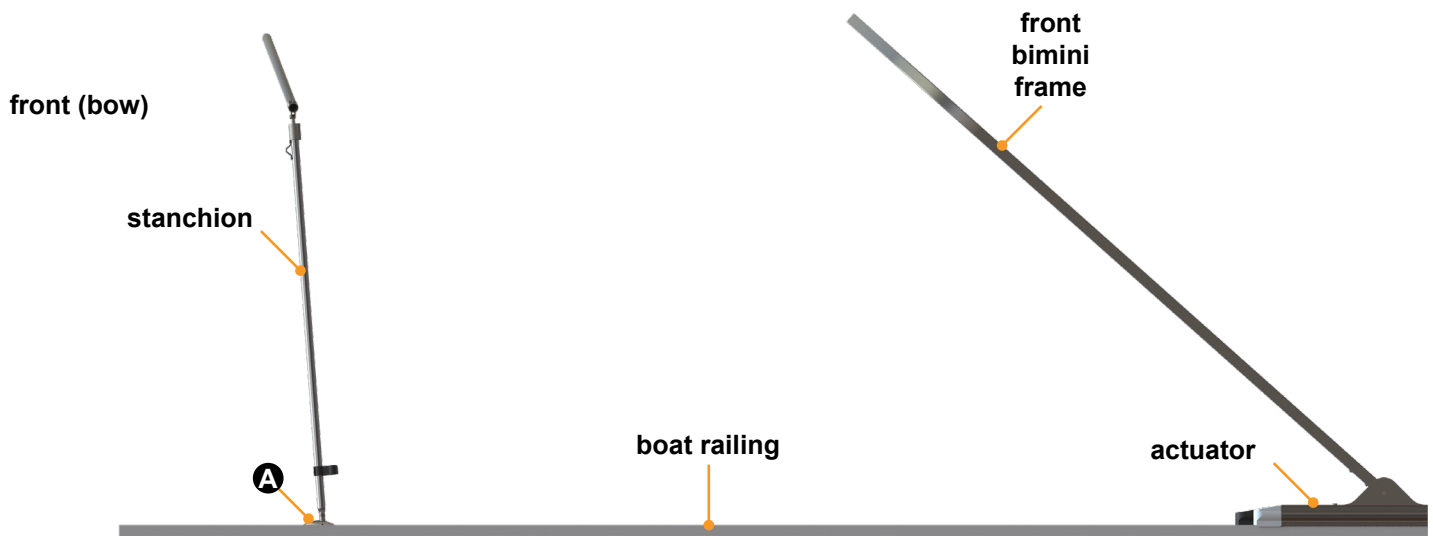

Fig.13
C. The stanchions should be positioned at a forward angle so when the locking plates are installed a forward and downward tension will be applied to the fly extension (Fig.13).